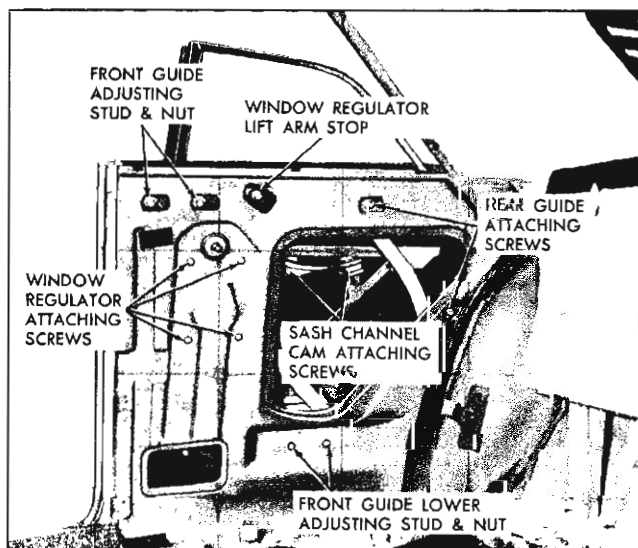

Fig. 69—Rear Quarter Hardware—47 Style—Manual
2. Remove rear quarter window rear guide attaching screw (fig. 69). Disengage rear guide from roller on window lower sash channel and remove guide.
3. With the rear quarter window in the half-down position, remove the lower sash channel cam attaching screws (fig. 69). Detach cam from roller on regulator arm and remove cam.
4. Remove rear quarter window front guide adjusting stud nuts (fig. 69).
2. To adjust the window fore or aft, loosen the front and rear guide attaching stud nuts (fig. 69). Position the window and guides fore or aft as required; then tighten the attaching stud nuts.
3. To adjust the rear quarter window in or out, loosen the front guide upper attaching stud nuts (fig. 69). Adjust the studs in or out as required; then tighten the stud nuts.
4. To adjust the top of the rear quarter window in or out, loosen the front guide lower attaching stud nut (fig. 69). Adjust the stud in or out as required then tighten the stud nut.
5. To relieve a binding condition between the channels of the front and rear guide, loosen the front and rear guide adjusting stud nuts (fig. 69). Operate window to full up position and tighten upper stud nuts on the front guide and forward attaching screw on rear guide. Operate window to full down and tighten remaining nuts.
rear quarter window, adjust the regulator lift arm stop as required (fig. 69).
4. Remove window regulator attaching screws (fig. 69) and remove regulator through large access hole.
2. With window in "up" position, remove the window front guide upper and lower attaching stud nuts (fig. 69).
2. With the window in the "up" position remove the window rear guide attaching screws (fig. 69). Disengage guide from roller on window lower sash channel and remove guide through access hole.